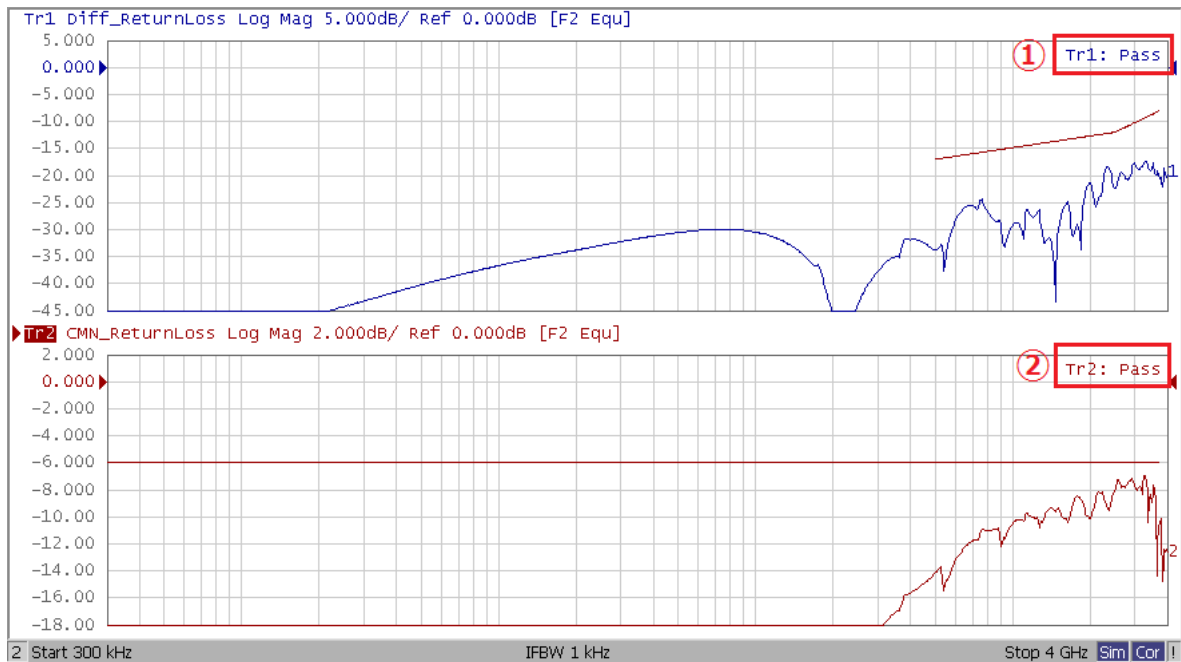

Figure 5-1 Differential Return Loss ( $SDD_{TX}$ ) and Common-Mode Return Loss ( $SCC_{TX}$ ) Example
8. Read the pass/fail sign on the trace (item 1 in Figure 5-1).
8. Read the pass/fail sign on the trace (item 2 in Figure 5-1).